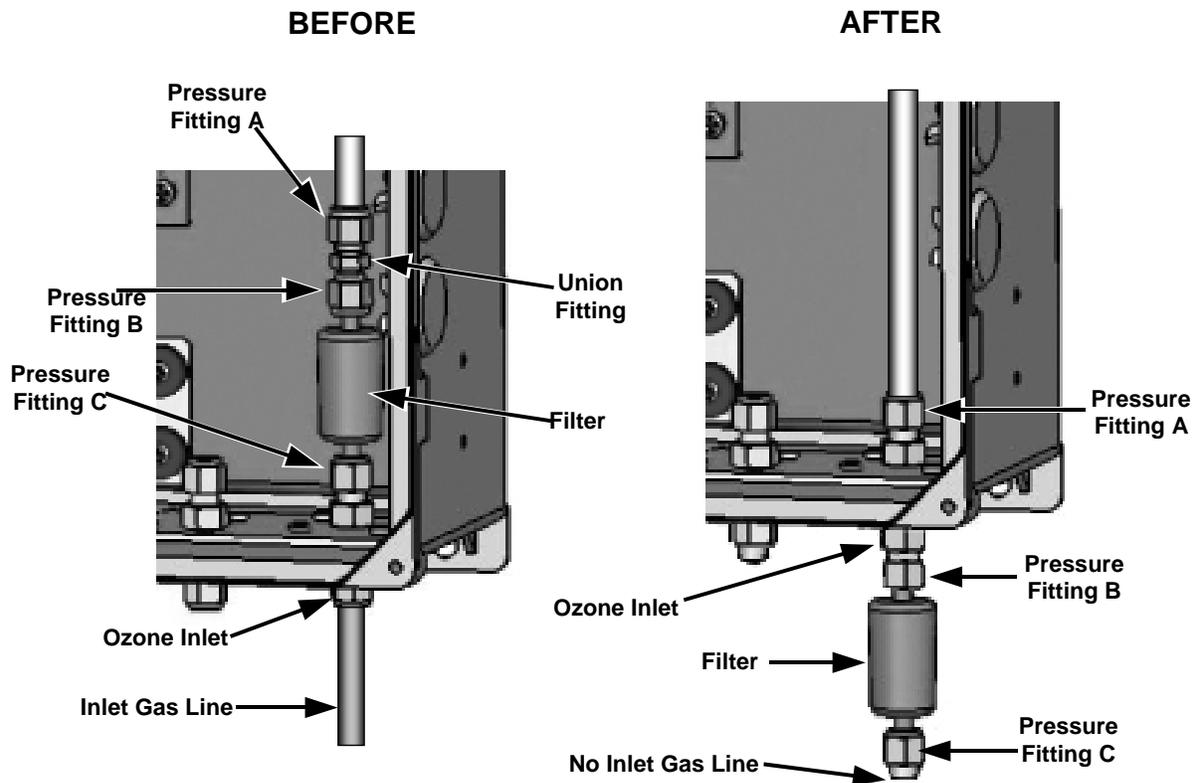

Figure 9-2 Changing the Particulate Filter
3. Unscrew the pressure attached to the internal gas line (Fitting A in Figure 9-2) from the union fitting.
4. Unscrew the union fitting from the fitting at the top of the filter (fitting B in Figure 9-2). Although the union fitting is no longer needed, save it in case you wish to return the particulate filter to the inside of the monitor at a later date.
5. Unscrew the pressure fitting at the bottom of the filter (Fitting C in Figure 9-2) from the ozone inlet.